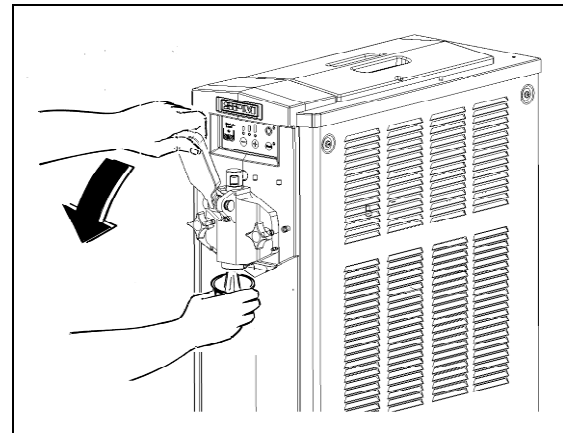

Fig. 13
- Fill the upper tank with lukewarm water and rinse the machine (fig.13) in order to flush it to remove the major part of the product residuals.